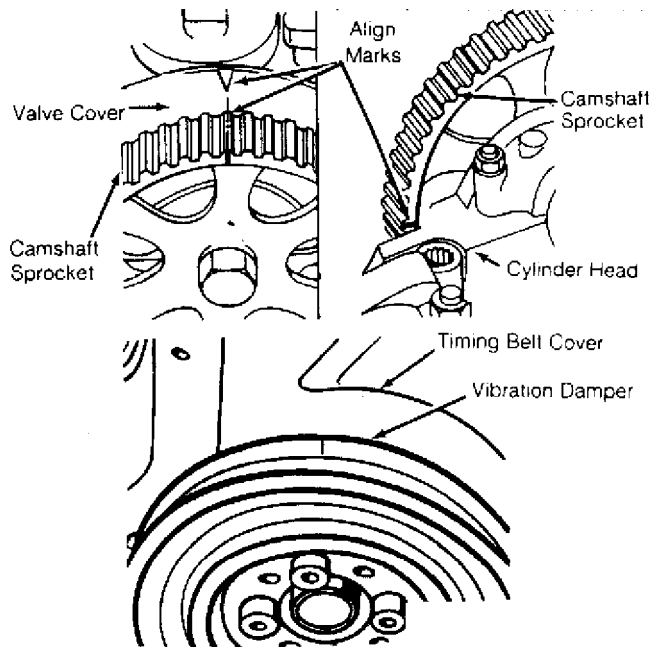

Fig. 10: Aligning 2.0L Timing Marks (16-Valve)
2) If valve cover is installed, mark on front of camshaft sprocket must align with mark on valve cover. If valve cover is removed, place camshaft sprocket mark even with valve cover surface. See Fig. 10.
3) Align vibration damper mark with mark on lower timing belt cover. See Fig. 10. Install timing belt around camshaft sprocket. Install Timing Belt Tension Scale (VW 210). To tension belt, rotate belt tensioner clockwise until tension scale reads 13-14. By hand, rotate crankshaft 2 turns and check timing mark alignment. To complete installation, reverse removal procedure.